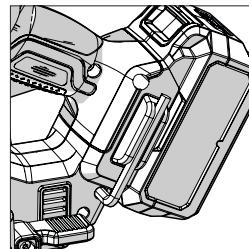

Fig. 1
- Locate the supplied Blade Change Hex Key which is housed in the onboard storage facility. (**Fig. 1**)